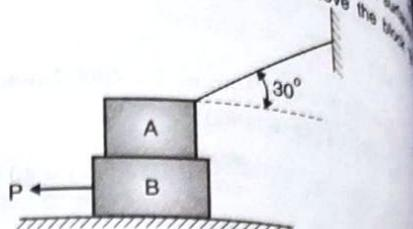

Fig. Q. 3
- Two blocks A and B of weights 1000 N and 200 N respectively are in equilibrium as shown in Fig. Q. 3. If $\mu = 0.3$ between all contact surfaces, find the force 'P' required to move the block B.